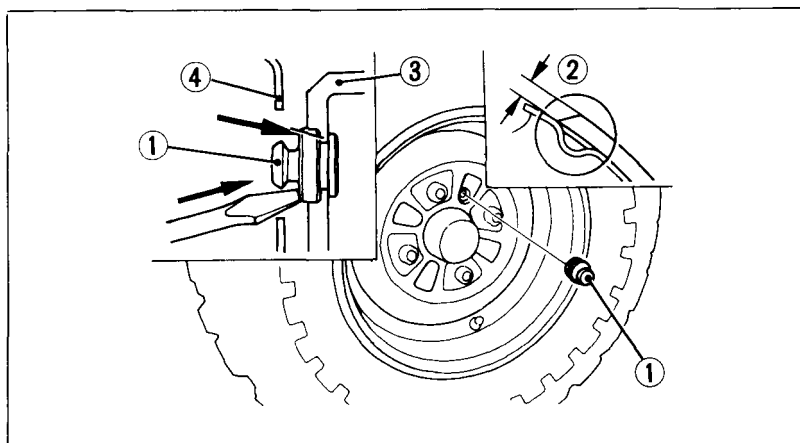
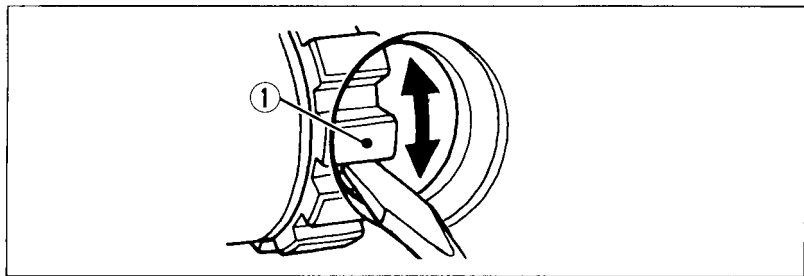

Fig. 4-22
Fig. 4-23
(1) Front brake lever
2. Remove the inspection hole plug (Fig. 4-22) and measure the lining thickness (2) on both front wheels.
3. If the brake lever free play and the brake shoe lining thicknesses are within the recommended limits, reinstall the inspection hole plugs, seating them into the inspection holes as shown in Fig. 4-22.
3. Beginning with either the left or right front wheel, remove the inspection hole plug (Fig. 4-22) and line up the hole with one of the brake adjusters (Fig. 4-23).
4. Using a screwdriver, turn up the brake shoe adjuster (1) until the front brake locks.
(1) Brake adjusters
7. Reinstall the inspection hole plug, seating it into the inspection hole as shown in Fig. 4-22.